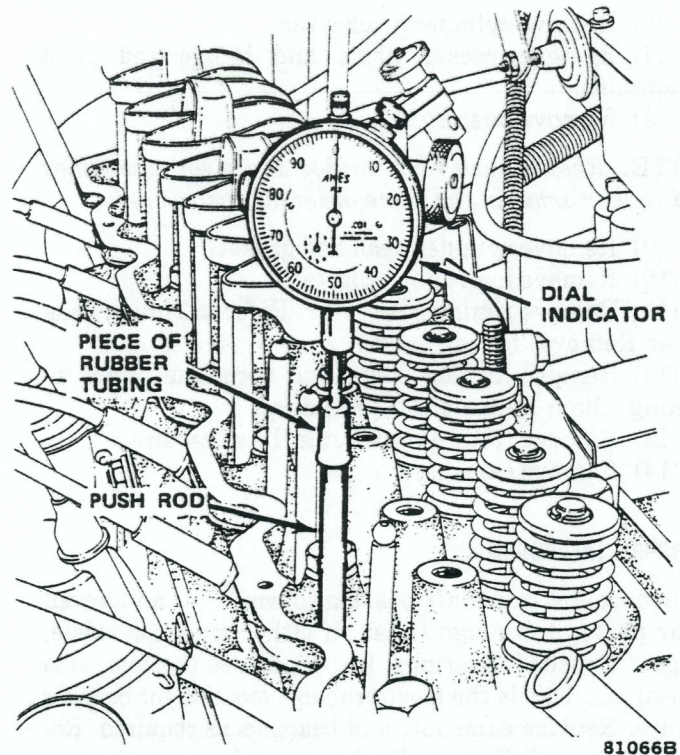

Fig. 1B-55 Cam Lobe Lift Measurement and Valve Timing
- (1) Remove cylinder head cover.
- (2) Remove bridge and pivot assemblies and rocker arms.
- (3) Remove spark plugs.
- (4) Install dial indicator on end of push rod. Use piece of rubber tubing to hold dial indicator plunger squarely on push rod (fig. 1B-55).
- (5) Rotate crankshaft until cam lobe base (heel) circle (push rod down) is under valve tappet. Set dial indicator to zero.
- (6) Rotate crankshaft until push rod reaches its maximum upward travel. Note distance on dial indicator. Correct cam lobe lift is 0.242 to 0.254 inch (6.147 to 6.451 mm).
- (1) Disconnect ignition wires and remove spark plugs.
- (2) Remove cylinder head cover.
- (3) Remove bridge and pivot assembly and rocker arms from No. 1 cylinder.
- (4) Rotate crankshaft until No. 6 piston is at TDC on compression stroke.
- (5) Rotate crankshaft counterclockwise (viewed from front of engine) 90°.
- (6) Install dial indicator on end of No. 1 cylinder intake valve push rod. Set dial indicator to zero (fig. 1B-55).
- (7) Rotate crankshaft clockwise (viewed from front of engine) until dial indicator pointer indicates 0.016-inch (0.406 mm) lift.
- (8) Timing mark on vibration damper should be indexed with TDC mark on timing degree scale. If timing mark is more than 1/2 inch (12.7 mm) from TDC in either direction, valve timing is incorrect.